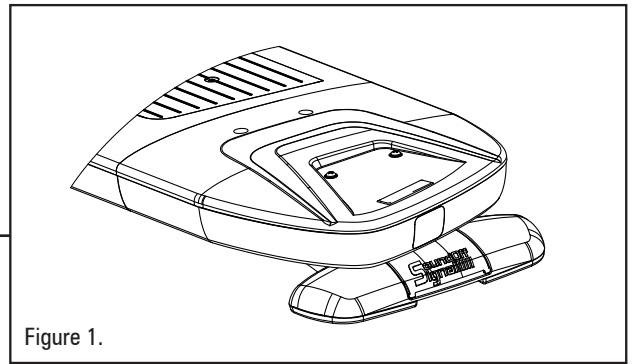

Figure 1.
1. Install the Grey gasket in the front slot of the lightbar as shown in Fig 1.